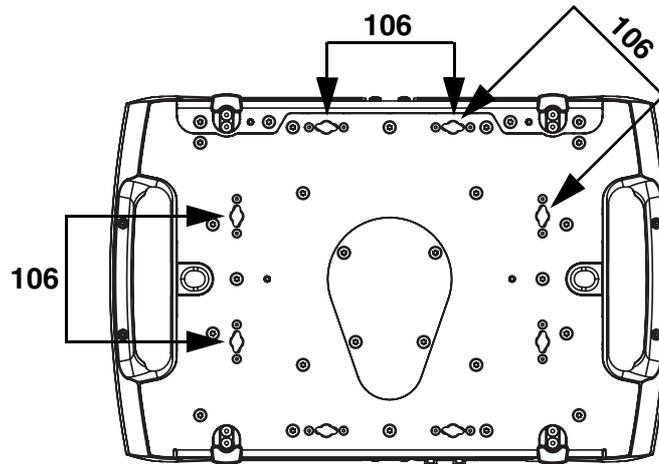
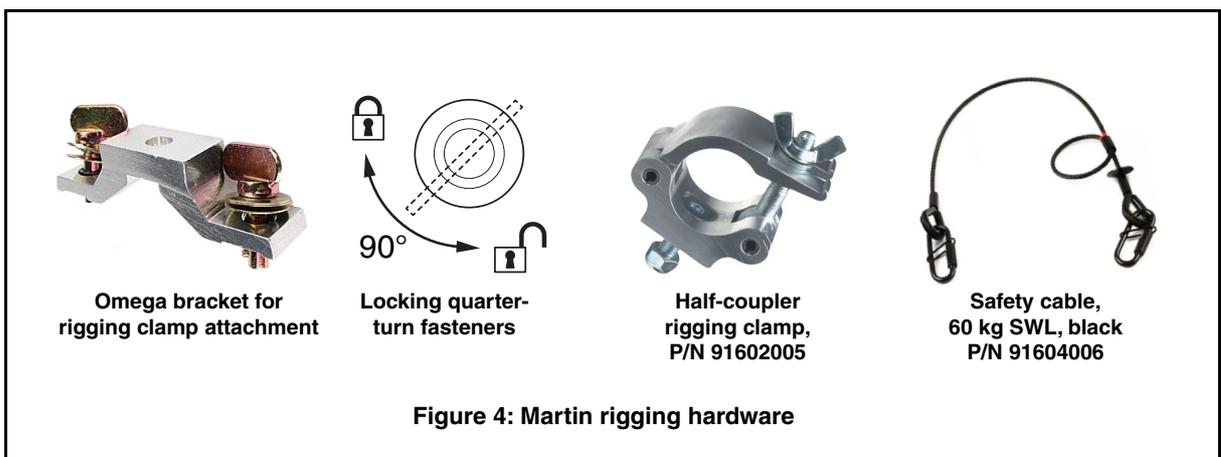

Figure 3: Omega bracket mounting points
Figure 4: Martin rigging hardware
The MAC Ultra Performance can be fastened to a surface such as a stage or clamped to a truss in any orientation using two omega brackets (see Figure 4) and rigging clamps. Clamps must be half-coupler type (see Figure 4) or equivalent type that fully encircles the truss unless the fixture is installed with the yoke hanging vertically downwards, in which case other clamp types that are approved for the supported weight may be used.
The four pairs of quarter-turn mounting points in the base accept 106 mm (4.17 in.) center-to-center omega brackets (see Figure 4) for rigging clamp attachment. The omega brackets can be fastened to the base parallel to the fixture's sides or diagonally (see Figure 3).
3. See Figure 3 on page 9. Align the first clamp and bracket with 2 mounting points in the base, and engage both the clamp bracket's quarter-turn fasteners in corresponding sockets in the base. See Figure 4. Turn the levers on the quarter-turn fasteners a full 90° clockwise to lock.